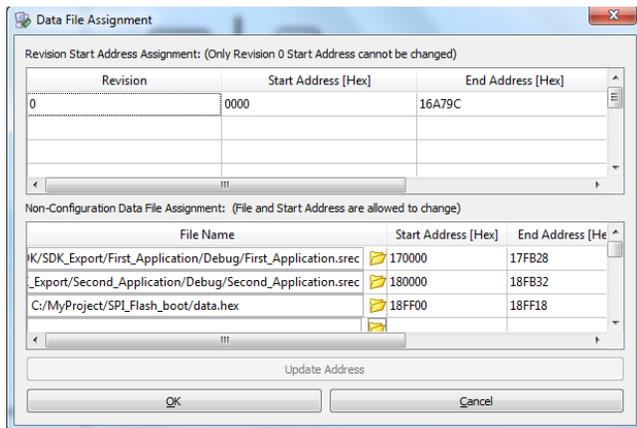

Fig. 11. Data File Assignment dialog Box.
4) After validating the dialog box Data File Assignment shown in figure 11, double-click Generate File to create the MCS file : boot_soft_data.mcs.